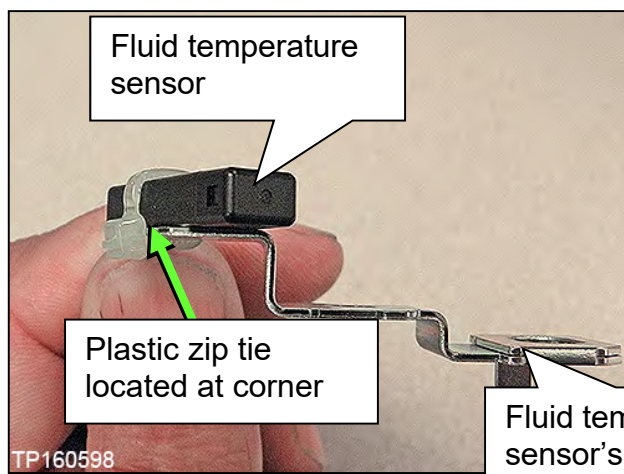
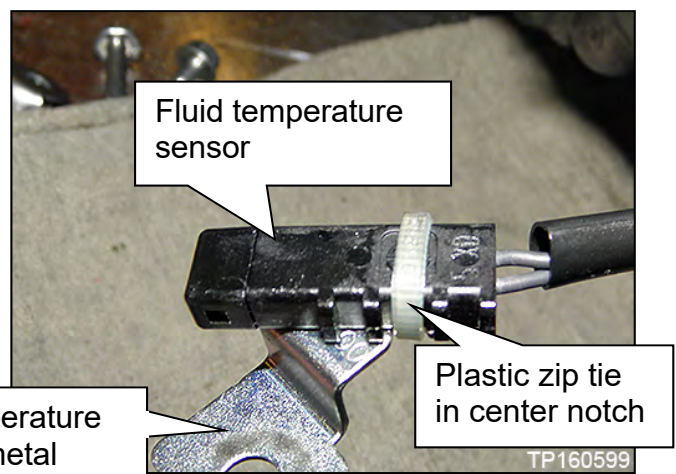

Figure 144
Figure 145
- a. Cut the old plastic zip tie with an appropriate tool to remove the fluid temperature sensor's metal bracket from the terminal harness assembly (Figure 145 and Figure 144).
- Locate the plastic zip tie at the center notch of three notches on the fluid temperature sensor (Figure 144).
- Tighten the plastic zip tie so that it is oriented as shown in Figure 145.